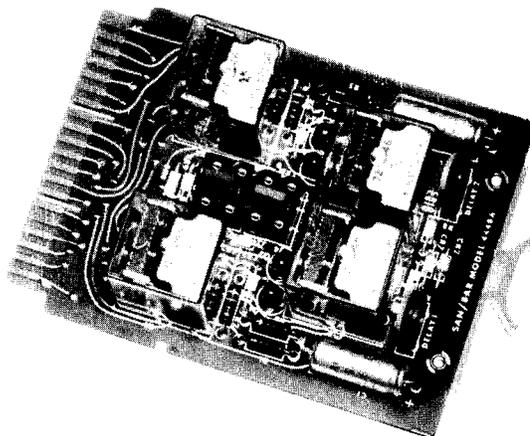

Fig. 1 4448A Card
1.2 The San/Bar 4448A Card (Fig. 1) provides for automatic transfer of the ringing signal from a principal telephone set to the attendant telephone station after a variable time-out period. Two identical and independent circuits are provided on the 4448A card, thus serving two pairs of telephone sets.